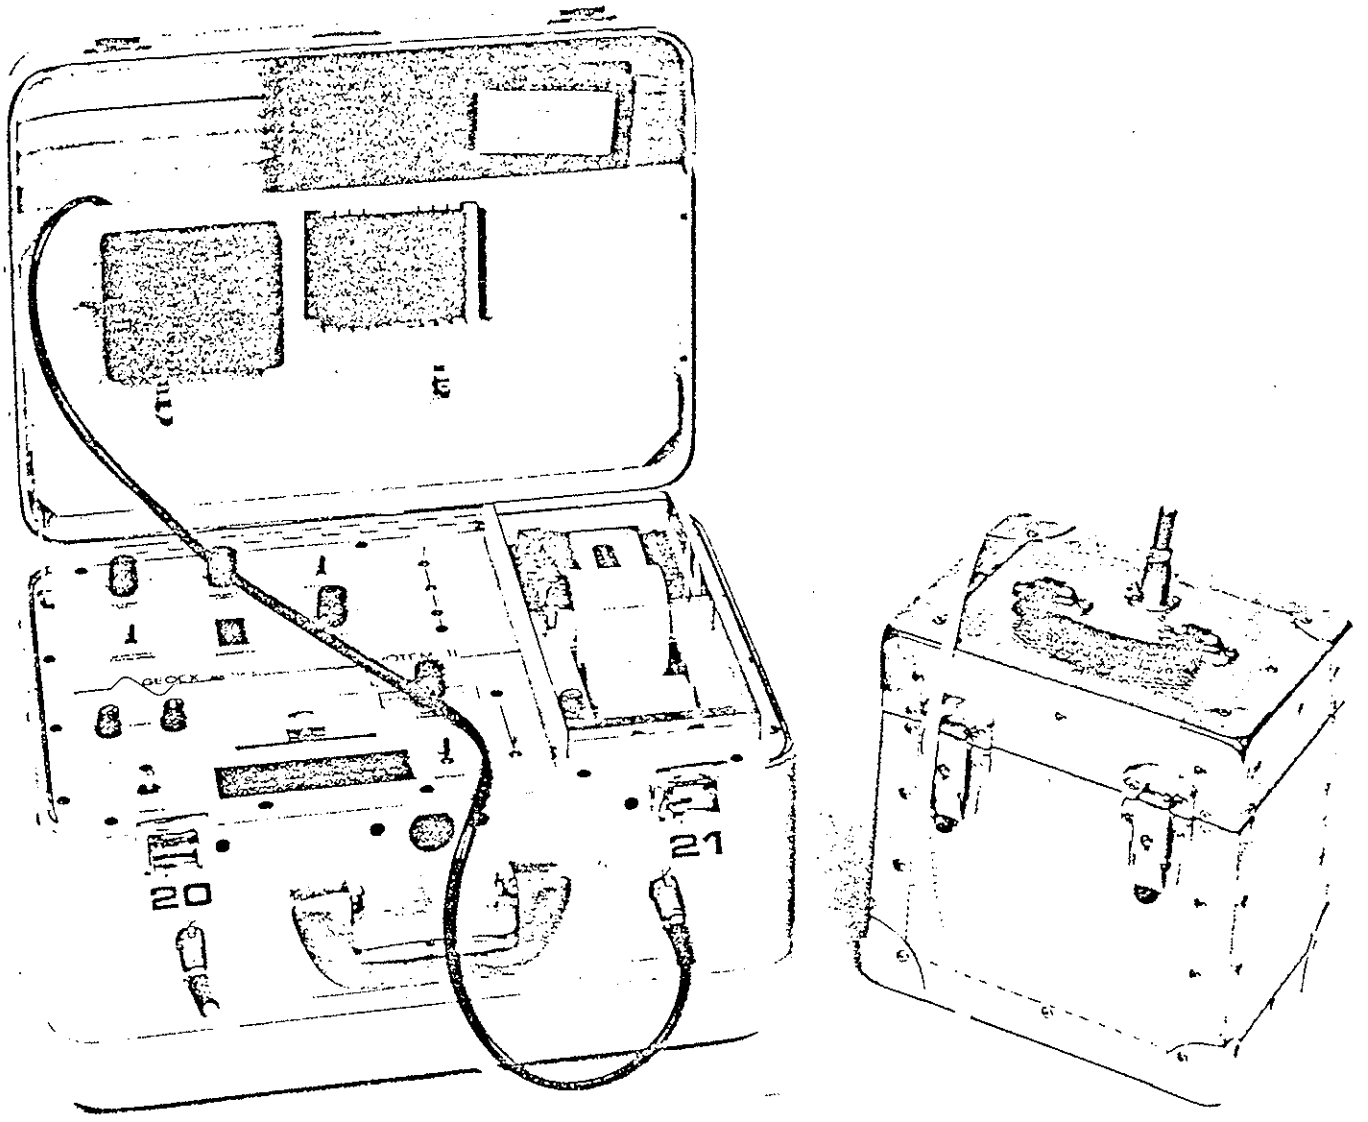
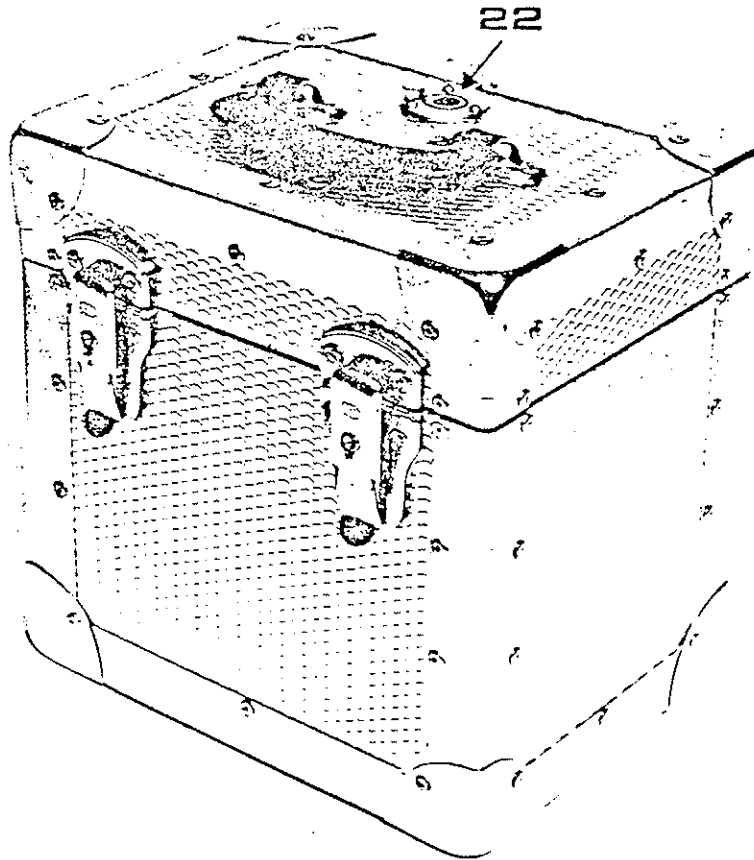

Figure 3.2 External View
Figure 3.3 Battery Pack
This socket is used, with the appropriate cable, to connect the console to the Battery Pack as shown in Figure 3.2. The three pins are assigned as follows:
Connection is made through this socket with the appropriate cable to the receiver and transmitter loops, or to the Calibration Unit in the lid of the console case as illustrated in Figure 3.2.
Figure 3.3 is an illustration of the typical Battery Pack supplied when motorcycle batteries are used as a power source. The socket (22) in the lid is used to connect the power to the console through socket (20) (Fig. 3.2).